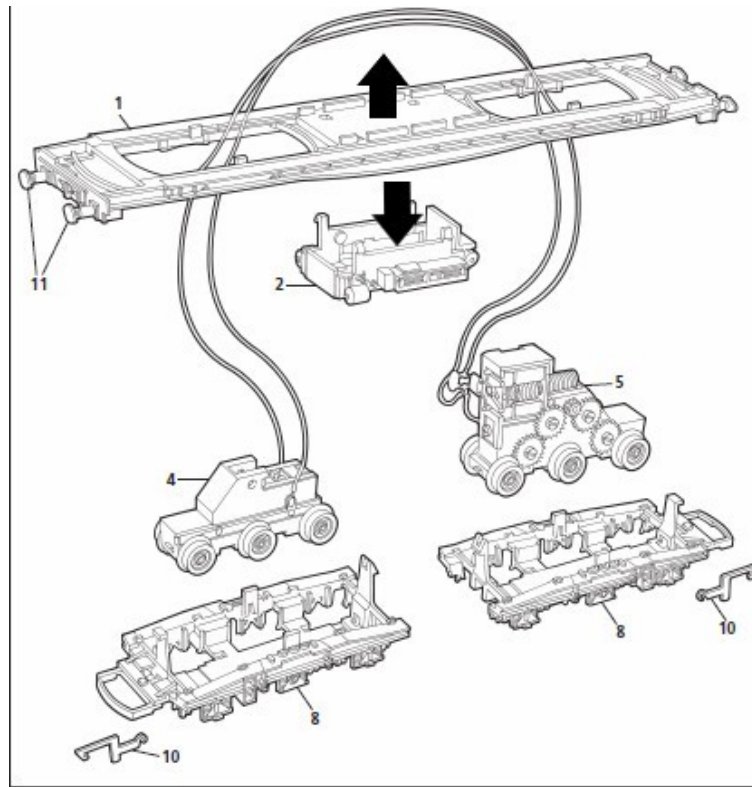
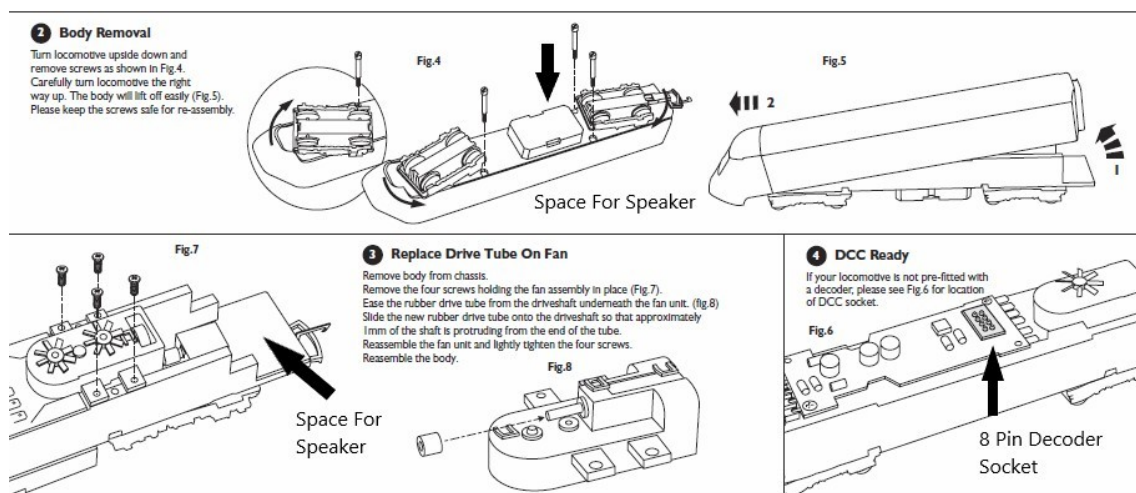

Figure 7 – Class 58 Speaker Options
Figure12A – Class 43 HST Heavy Diesel Speaker Options
Figure 7 illustrates a Class 58 Railroad before conversion to DCC and showing speaker space either in the box (item 2) facing down or on the chassis deck facing up as arrowed. If the speaker is mounted in item 2 then holes will be required to allow sound to exit and for speaker wire access.
Figures 12A shows a late model ‘heavy’ DCC-Ready Class 43 HST with a decoder socket and possible space for a speaker (arrowed) in the battery box/fuel tank or possibly on the rear deck, depending upon if it is the power or dummy car, as the chassis are different. Installation will mean disconnecting the speaker and running extended wires from the decoder plugged in on the top deck past the chassis gear to the speaker location. Some modellers have removed the operating fans (block 3 Fig.7 below) to make space for an even larger speaker, then gluing just the actual fans to the roof of the body.